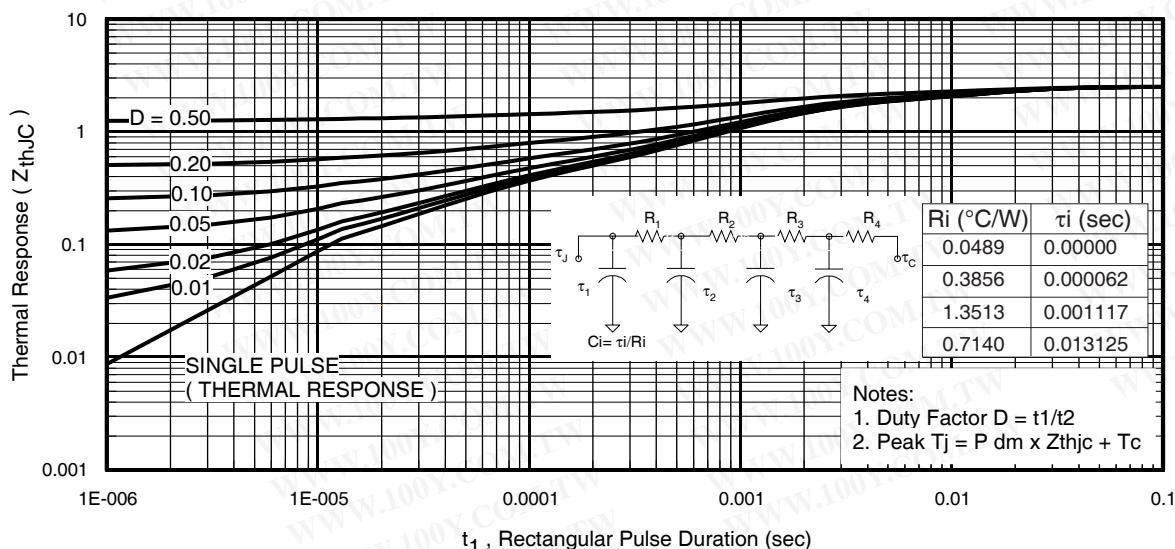

Fig 11. Maximum Effective Transient Thermal Impedance, Junction-to-Case
- $Z_{thJC}(D, t_{av}) = \text{Transient thermal resistance, see figure 11}$